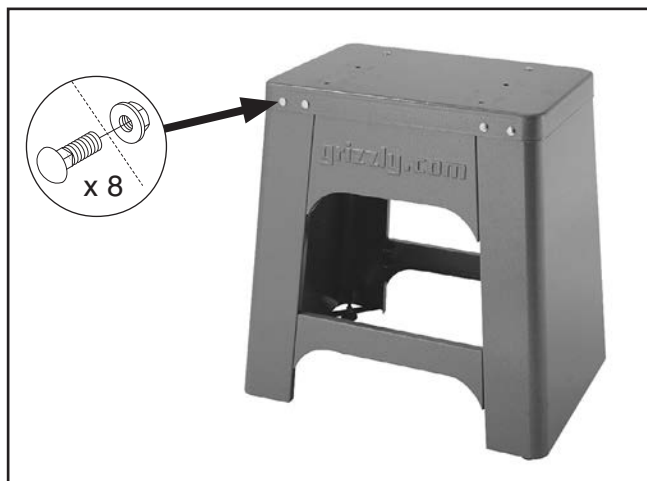

Figure 11. Stand top attached.
4. Turn the stand assembly upright and attach the top, as shown in **Figure 11**, with (8) $\frac{5}{16}$ "-18 x $\frac{5}{8}$ " carriage bolts and (8) $\frac{5}{16}$ "-18 flange nuts.